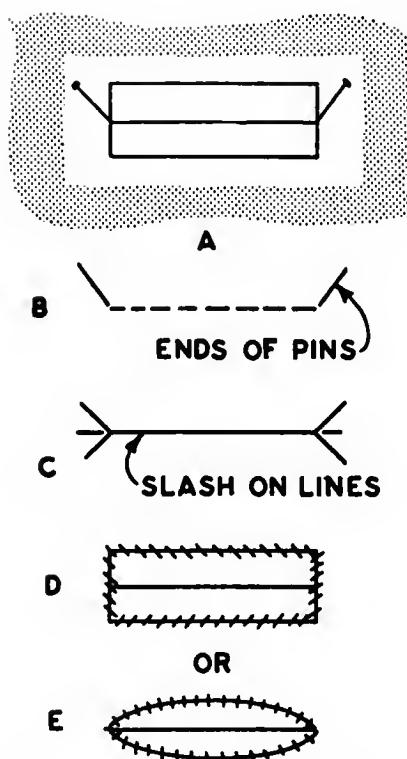

Fig. 172. Applying facing to the buttonhole.
- B. Fold the facing into position. From the buttonhole side, place a pin in the opening at each end of the buttonhole (Fig. 172, a).
- C. From the facing side, baste a line from one pin to the other (Fig. 172, b).
- D. Cut the same as for the buttonhole (Fig. 172, c).
- E. Turn under each side and the ends, and fell the facing to the buttonhole. Take an extra stitch at the corners (Fig. 172, d); or
F. Cut a straight line and fold back the facing to form an oval. There are no corners with this method, and it should not be used at the top button of a convertible neckline (Fig. 172, e).